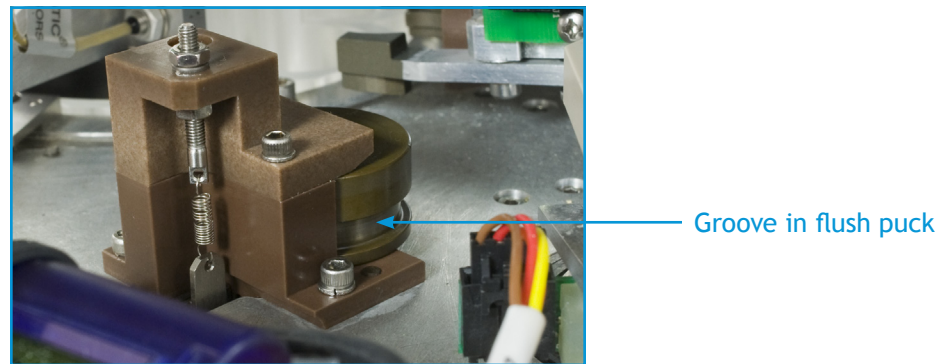

Figure 5-11: Flush Puck properly oriented
4. When placing the Flush Puck into the garage, make sure it is oriented correctly. The groove in the puck must be nearest to the stage. See Figure 5-11.